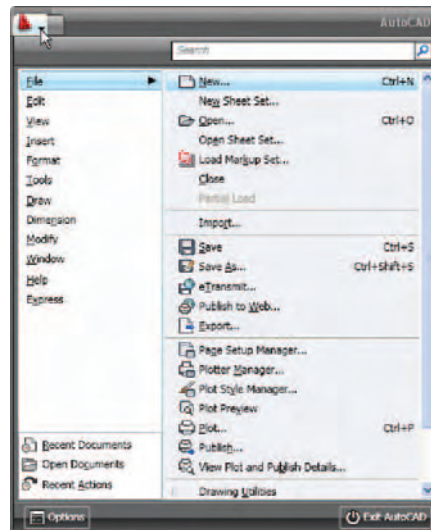

Fig. 1.4 The Menu Browser menu
- **Menu Browser** icon: A *left-click* on the arrow to the right of the **A** symbol at the top-left-hand corner of the AutoCAD 2009 window causes the **Menu Browser** menu to appear (Fig. 1.4).